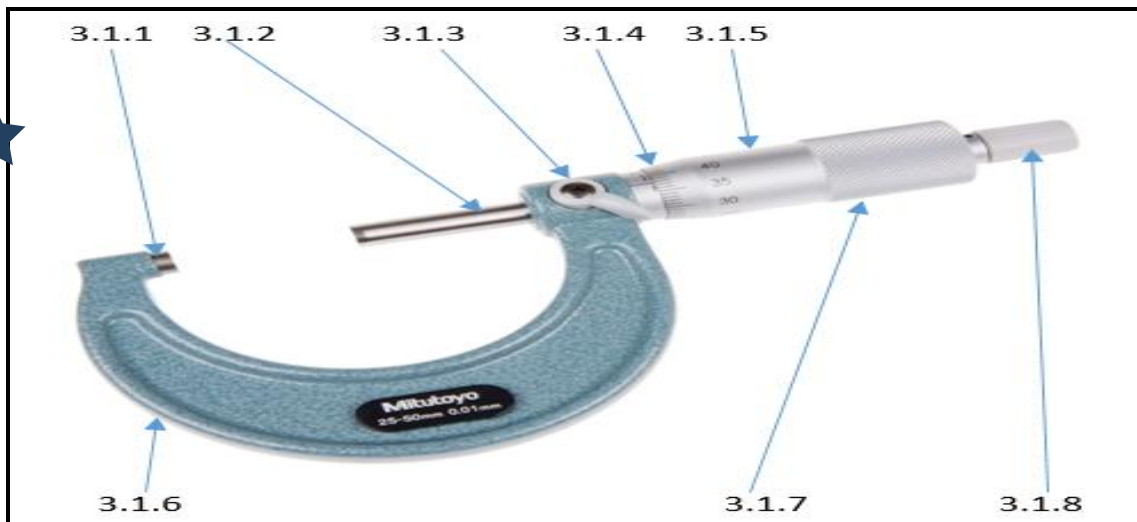

FIGURE 1
- 3.1 Name the parts of the tool shown in FIGURE 1 below by writing only the answer next to the numbers (3.1.1–3.1.8) in your ANSWER BOOK.